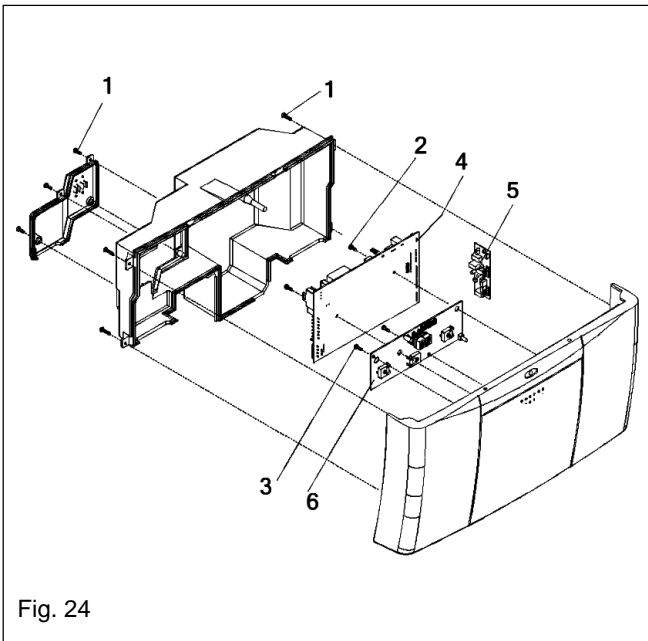

Fig. 24
**6.12 PRINTED CIRCUIT BOARD (see fig. 24)**